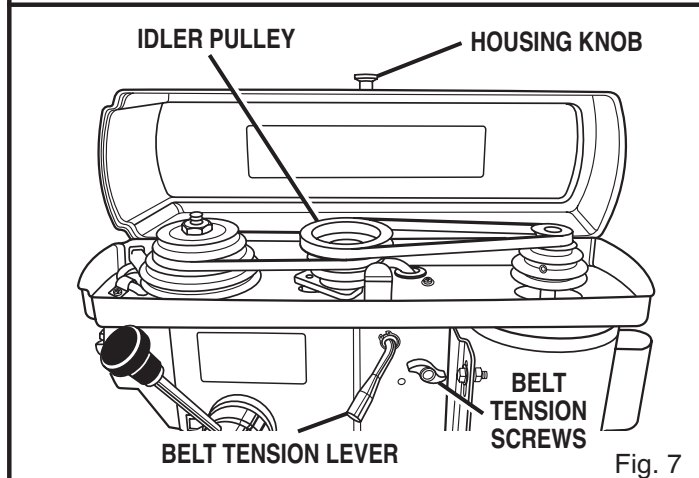

Fig. 7
See Figures 7 and 8.
- Place idler pulley in the center hole in the head assembly. Fit one belt over the spindle pulley and the idler pulley and the other belt over the motor pulley and the idler pulley. Tighten the belt tension lever and the two belt tension screws. See Figure 7.